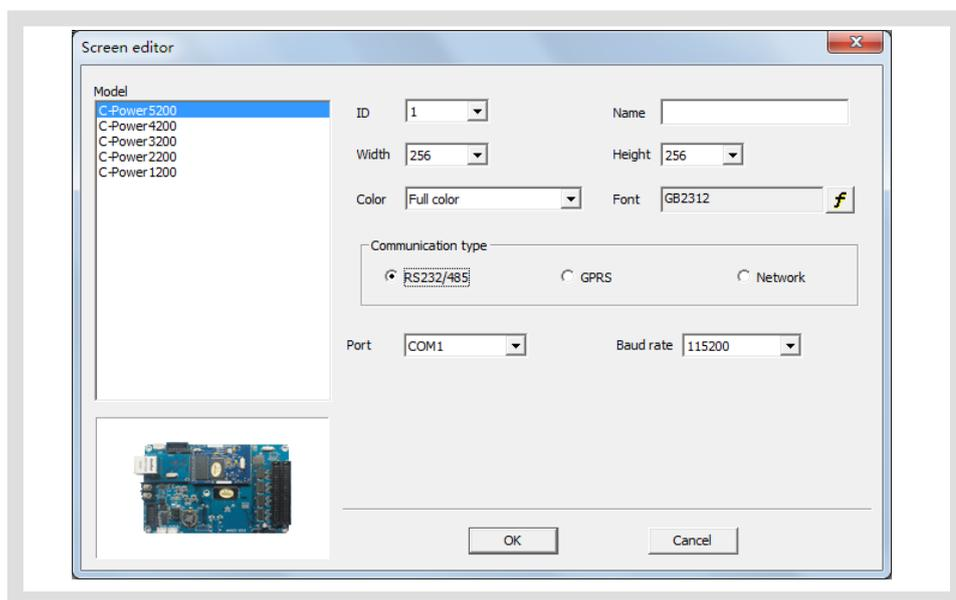
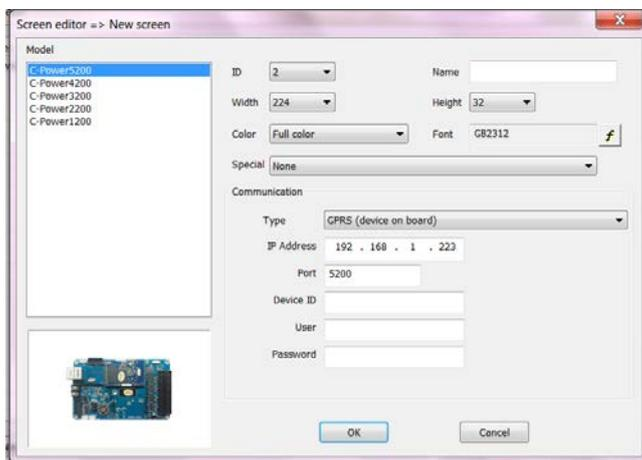

Figure5 “Screen editor” dialog box under COM port mode
Figure6 “Screen editor” dialog box under network mode
- 4) After clicking the “New” or “Edit” button, enter the password in the authority confirmation box, and the “Screen editor” a box will pop up, as shown in Figure5 and Figure6.
B. Name: the user can choose a name for LED screen. The name will appear at the edit field. If no name is entered, the system will automatically display “CT 5200 (ID)”